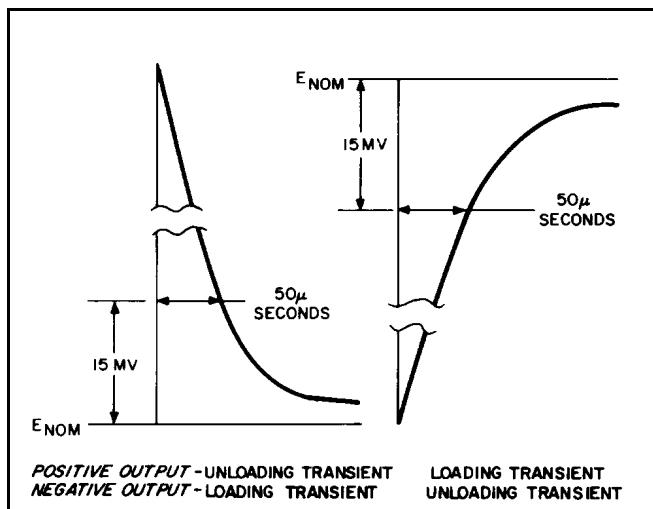

Figure 5-6. Load Transient Recovery Time Waveforms
- i. Starting from the major graticule division representing time zero, count to the right $50\mu\text{s}$ and vertically 15mV . Recovery should be within these tolerances, as illustrated in Figure 5-6.